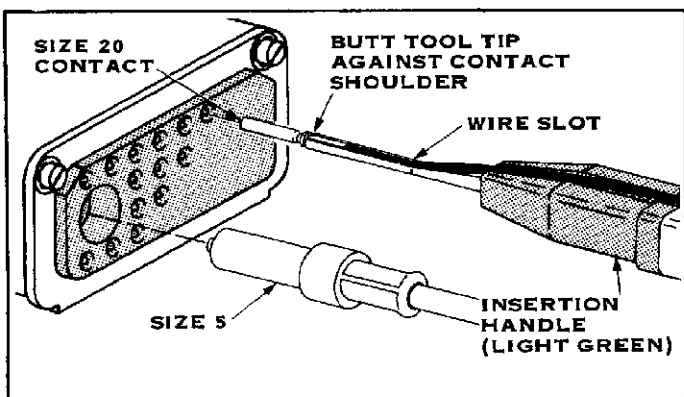

FIGURE 2
Use this tool as follows: (See Figure 2)
3. Position the Tool Tip against the Shoulder of the Contact as shown in Figure 2. (Note that the Beveled Tip is smaller than the outside diameter of the Contact Shoulder. This allows the Locking Lance in the cavity to grip the shoulder of the Contact.)